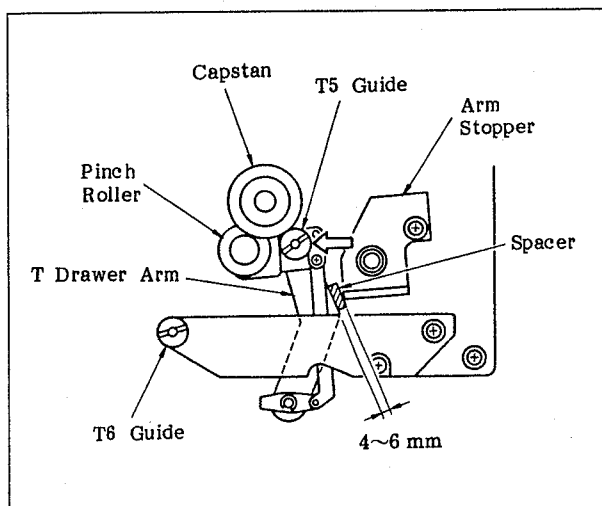

Fig. 6-83 Preparation before Making the Adjustments (2)
- Push the T5 guide in the direction of the arrow with your finger, as shown in Figure 6-83, and then insert a 4 to 6mm thickness spacer between the T drawer arm and the arm stopper.